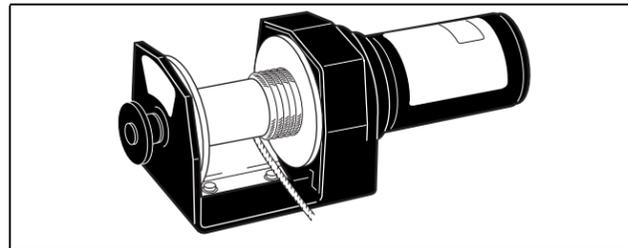

Fig. 5 Never Operate Winch with Less Than Five Turns Around Drum
Never operate the winch with less than five (5) full turns of cable around the drum (Ref Fig. 5 on page 3-6).